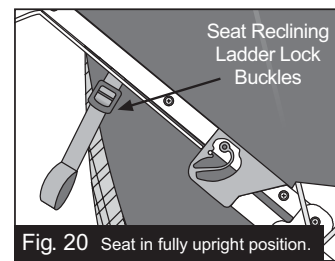

Fig. 20 Seat in fully upright position.
**10. RECLINING SEAT:** Set parking brake before making any seat adjustments. To recline the seat, rotate the ladder lock buckles (Fig. 20) forward thus releasing the reclining straps. To raise the seat, pull the reclining strap loops until you obtain the desired position. The seat back can be adjusted to recline anywhere between the fully upright position and the fully reclined position (Fig. 20 & 21).